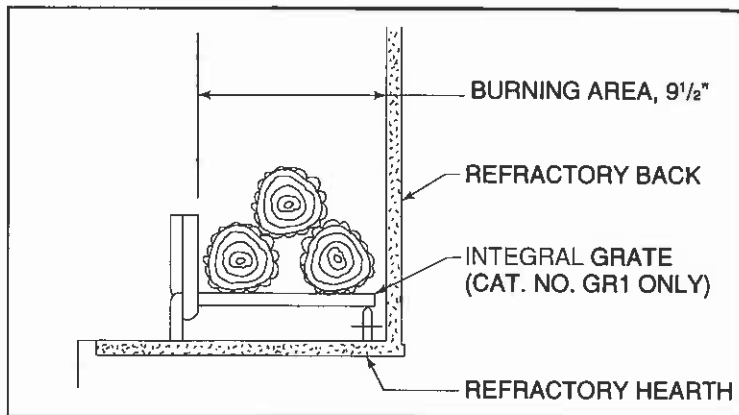

Figure 21
E. **GRATE.** The factory installed Integral Grate must be used to hold the logs from falling out of an open fireplace and to allow air to pass between the burning logs. It is important to keep the fire off the hearth and to allow the ashes to collect beneath the fire, thereby forming a layer of additional heat protection. See Figure 21. Use only Catalog Number GR1 Integral Grate for replacement.
H. **SETTING THE FIRE.** Check the flue damper to be sure it is fully open. Place crumpled or twisted paper under the Grate. Loosely arrange kindling or small pieces of wood to form a layer above the paper. Place three logs in a rough pyramid as shown in Figure 21, being sure to allow free air space between the logs. Small sticks of wood may be used to separate the logs. Use only solid wood fuel or a listed decorative gas appliance. Do not use a fireplace insert or other products not specified for use with this fireplace. **NOTE:** When heated the first time, the temperature of the fireplace must be raised gradually, to prevent moisture within the refractory from causing cracks, and to allow the binders in the insulation to dissipate.